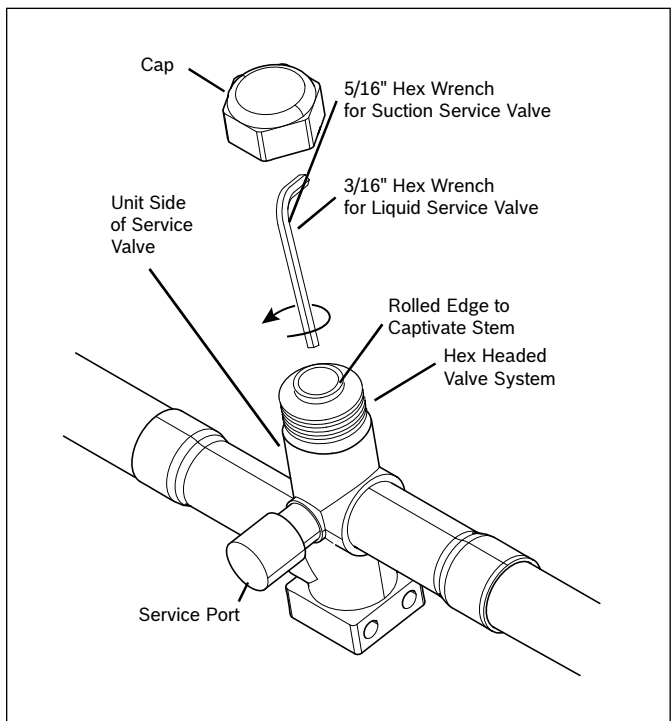

Figure 29
1. Remove Service Valve Cap Figure 29.
2. Fully insert hex wrench into the stem and back out counterclockwise until valve stem just touches the rolled edge (approximately five (5) turns.)